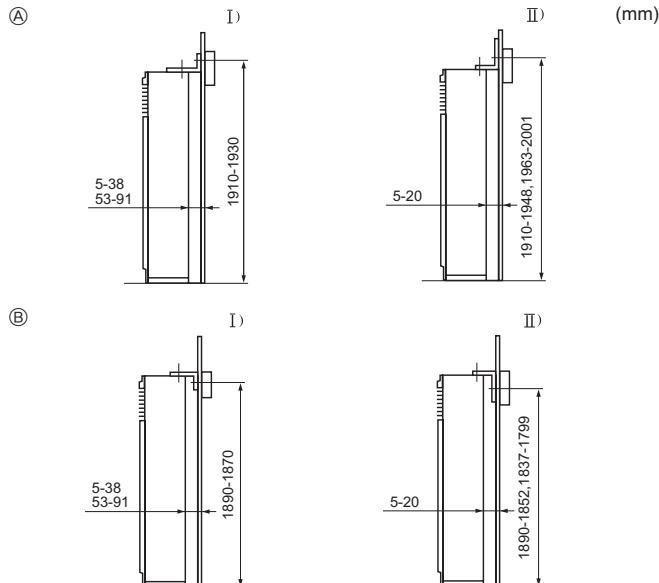

Fig. 3-3
① Tip-over prevention bracket
The tip-over prevention bracket ① is set on the top surface of the unit. Remove the tapping screws ②, and then reinstall the bracket, as shown in the illustration. For the proper installation distances, see Fig. 3-3.
3.3. Mounting the tip-over prevention bracket (Fig. 3-3)